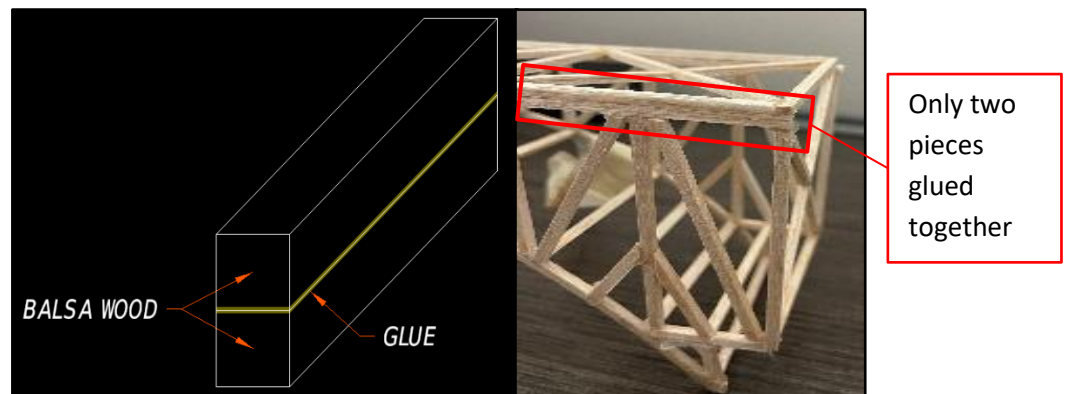

Figure 2. Acceptable Lamination
- c) Lamination shall be permitted one layer thick, in either direction, as shown in the figures below. Lamination is gluing two members along their length. See Figures 2 & 3 for more details.